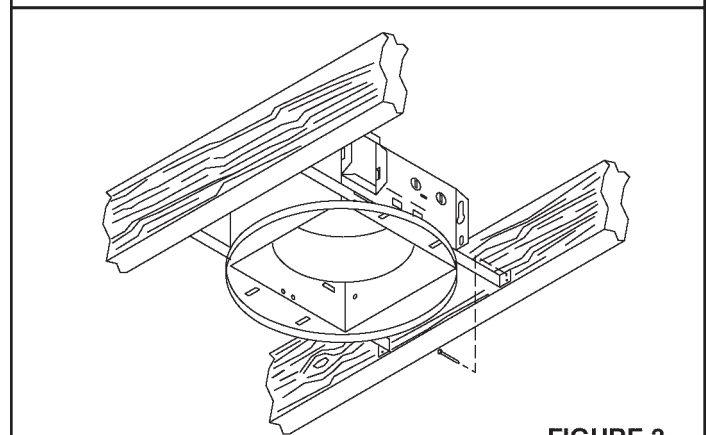
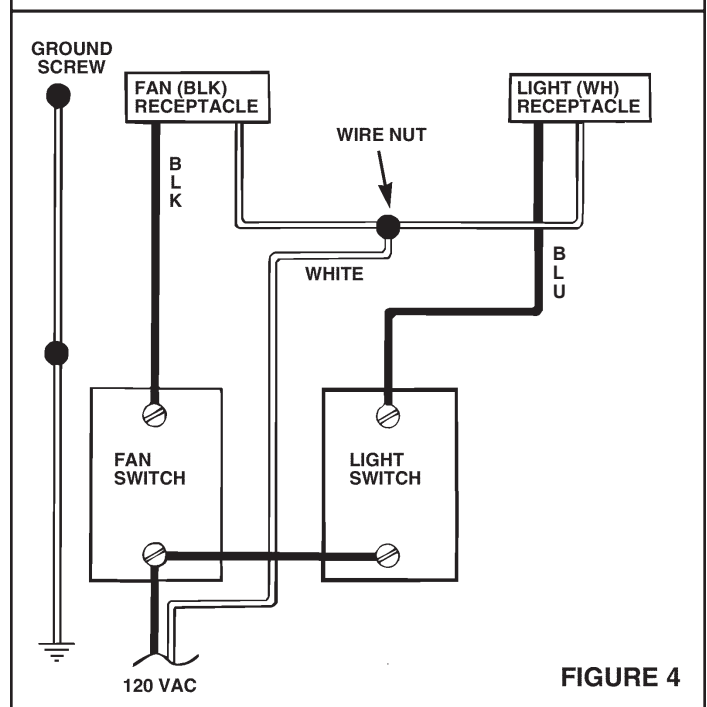

FIGURE 3
FIGURE 4
Refer to Figure 3.
4. Refer to Figure 4. Connect white wires from the fan and light receptacles to white (neutral) wire from the supply. Connect black wire from fan receptacle (black) to wire from fan switch. Connect blue wire from light receptacle (white) to wire from light switch.
**WIRING AND DUCTING:** Plan ducting and wiring BEFORE proceeding with installation. Refer to Figures 4 and 5 for wiring and Figure 3 for ducting.